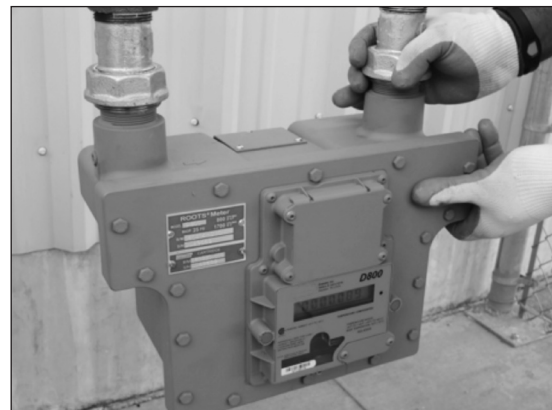

Figure 7.3 - Connect meter outlet to swivel nut on the downstream side
5. Connect meter outlet to the downstream side of the line as shown in Figure 7.3. Hand tighten the nut to the meter spud.